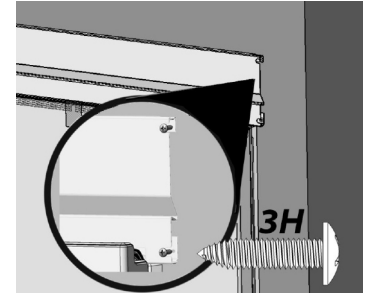

Fig. 13
- b. Drill  $\frac{1}{8}$ " pilot holes and fasten two 3H screws on the right side of the Top Trim with a Phillips screwdriver to cabinets (Fig. 13).